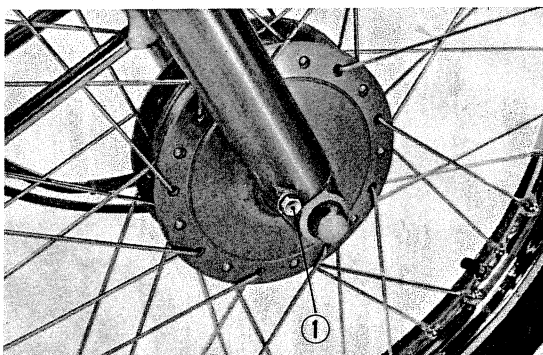

Fig. 26 ① Drain plug
- 3) Reinstall the drain plug and tighten before refilling with new oil. (Fig. 26)